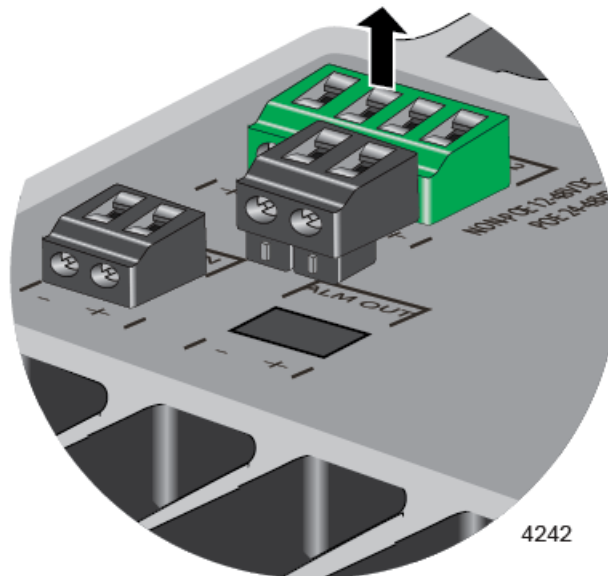

Figure 37. Removing an Alarm Connector
3. Remove the alarm connector from the top panel. Figure 37 shows the removal of the ALM OUT connector.